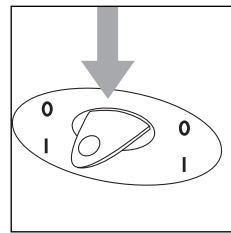

Fig.7
- Press the ON/OFF switch down (fig.7) to switch the kettle on.